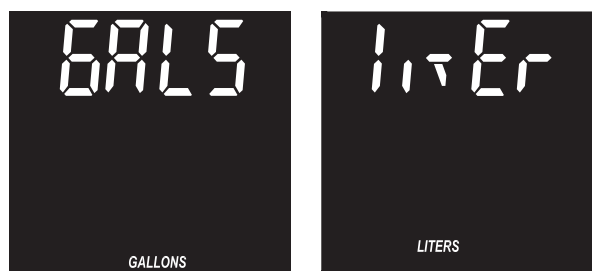

FIG. 34
3. Once in this display, press the SET button twice and one of the two displays in Figure 34 is shown.